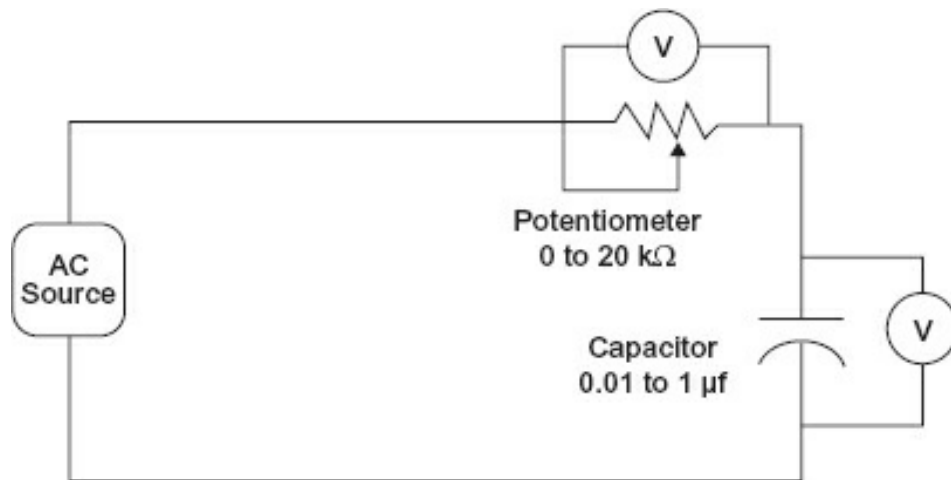

Figure 2-22. Determining X_C .
1. Obtain a function generator as an AC source and a 20 k Ω potentiometer, and connect them in the circuit shown in Figure 2-22.